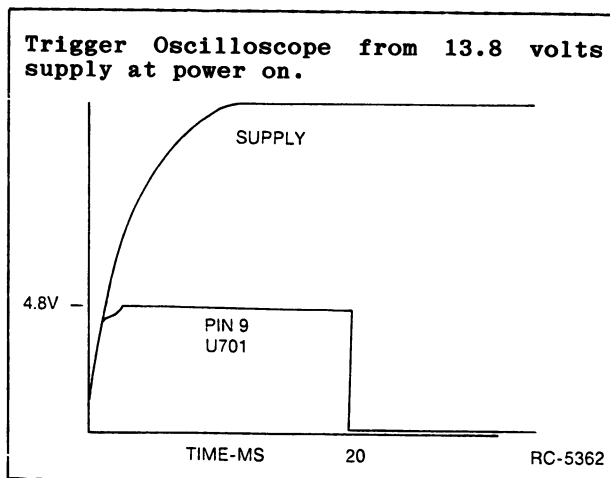

Figure 18 - Reset Waveform
2. Check Power-On Reset on U701, Pin 9 (see Figure 18). If not present, check regulator U705, Pin 2 and transistor Q704.